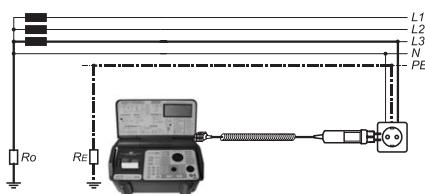

Figure 6.8.2 Connection of test leads
▶ Connect the test leads to instrument, measurement connector (17).
▶ Connect the test leads with object see figure 6.8.2 or 6.8.3.
- ▶ Switch on UNITEST 0100-EURO EXPERT plus via key "ON/OFF" (9).
- ▶ Set the measurement range switch (1) to function 'VL-PE / Ri/Ip_{sc} ' (1).
- ▶ Connect the test leads to instrument, measurement connection (17).
- ▶ Connect the test leads with object see Figure 6.8.2 oder 6.8.3.
- ▶ The "DISPLAY" key (30) is used to alternate between the internal mains resistance (Ri L-PE) or the prospective short-circuit current (Ip_{sc}).